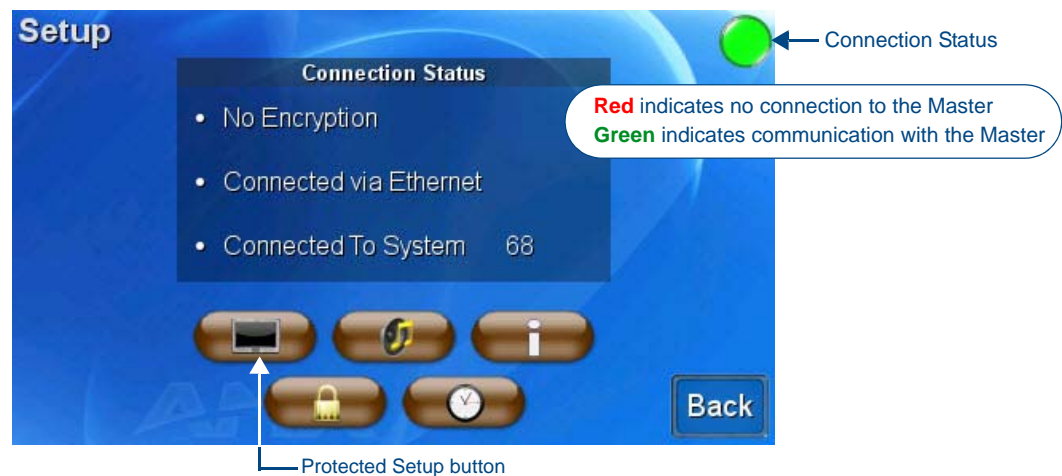

FIG. 18 Setup page
1. Press the **Front Setup Access** button (below the touch screen) for **6 seconds** to open the *Setup* page (FIG. 18).
7. Press the **Front Setup Access** button for **6 seconds** to open the *Status* page, and press the **Protected Setup** button to open the *Protected Setup* page (see FIG. 18 on page 23).